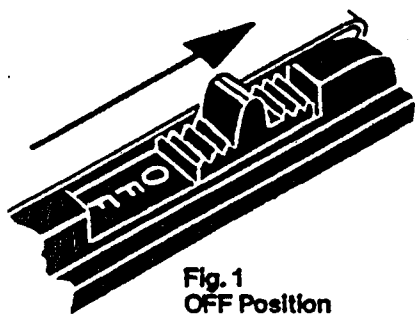
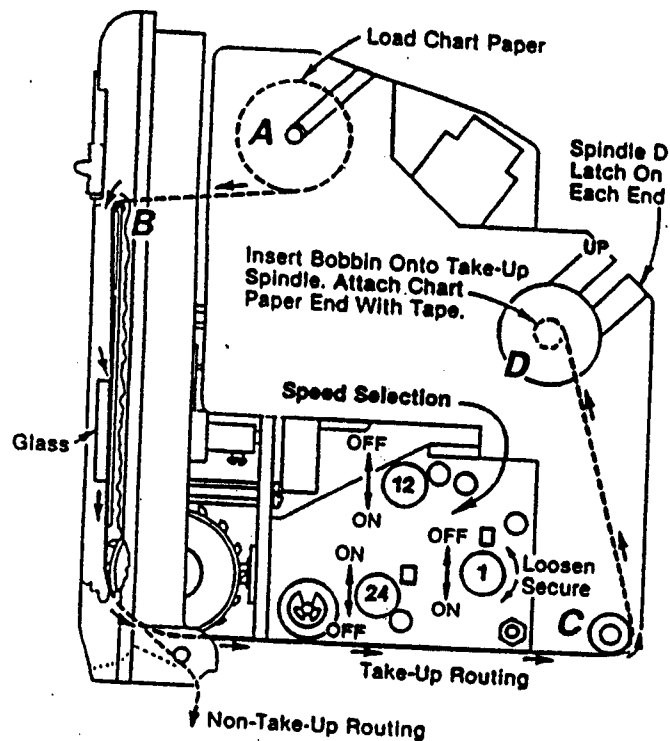
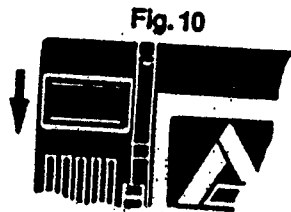
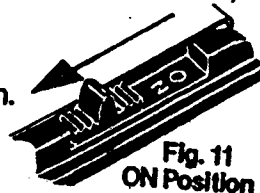

Fig. 1
Fig. 9
Fig. 10
Fig. 11
With chart drive switch in "OFF" position (see fig. 1) exposing the word "OFF," check mechanical zero setting of pointer (see fig. 2) before making any electrical connections to the instrument. If adjustments are necessary proceed as follows:
- Move chart drive switch to "OFF" position exposing the word "OFF." See fig. 1.
1. Move chart drive switch to "OFF" position exposing the word "OFF." See fig. 1.
3. To insert or remove chart paper, place recorder in horizontal position and press the release button in the direction shown in fig. 10. Raise recorder mechanism to a vertical position until it locks. Remove feed shaft (A) (see fig. 9) and place chart roll on spindle. Remove tape on roll and retain tape for securing chart on take-up spindle (D). Unroll about 12" to 15" and route paper over top edge of scale plate (B) underneath glass, over the sprocket wheels, to the rear and over the idle roller (C) up to the cardboard bobbin mounted on take-up spindle (D). Secure edge of chart to bobbin with tape. Make sure the sprocket holes in the paper engage the sprocket wheels.
sure that feed control is tight and in the right position. The word "ON" must be visible. Press in the idle roller extension (C) to allow the recording mechanism to move back down into case and lock into position. Replace cover by positioning the "U" bend onto the plastic projections and snap front down. Make sure chart paper is not binding with the cover in place. For "non-take-up" recording, route chart through bottom slot as shown in fig. 9.
4. To remove chart from take-up spindle (D), move the latches away from the take-up spindle. Turn knurled knob on spindle (D) until the slot in the take-up drive pulley at the opposite end of the spindle is lined up with the slot in the side frame of the recorder. Slide the spindle and chart up and out of the slots in the side frames of the recorder. Remove tape from chart and bobbin.
5. To unload chart paper from recorder turn chart drive switch off, exposing the word "OFF". See fig. 1. Follow 4 above. Remove chart from feed shaft (A) and pull paper thru recorder.
1. To select chart speed, energize recorder with proper line voltage and frequency. Raise recorder to vertical position (see loading and unloading chart paper on take-up models). Move chart drive switch to "ON" position exposing the word "ON". Make sure switch clicks into detent (see fig. 11). Set all three speeds to "OFF" position and tighten (see fig. 9). Move desired speed knob (1, 12 or 24) to "ON" position. Tighten while keeping pressure on gear mechanism.
2. Press in the idle roller extension (C) to allow the recording mechanism to move back down into the case and lock into position. Replace cover by positioning the "U" bend onto the projections above the chart well opening. Make sure chart paper is not binding with the cover in place. For "non-take-up" recording route chart through bottom slot as shown in figure 9.
1. Chart drive switch must be in "OFF" position (exposing the word "OFF"). See fig. 1.
7. Push chart drive switch to "ON" position (exposing the word "ON"). Make sure switch clicks into detent position which locks it into place. See fig. 11.